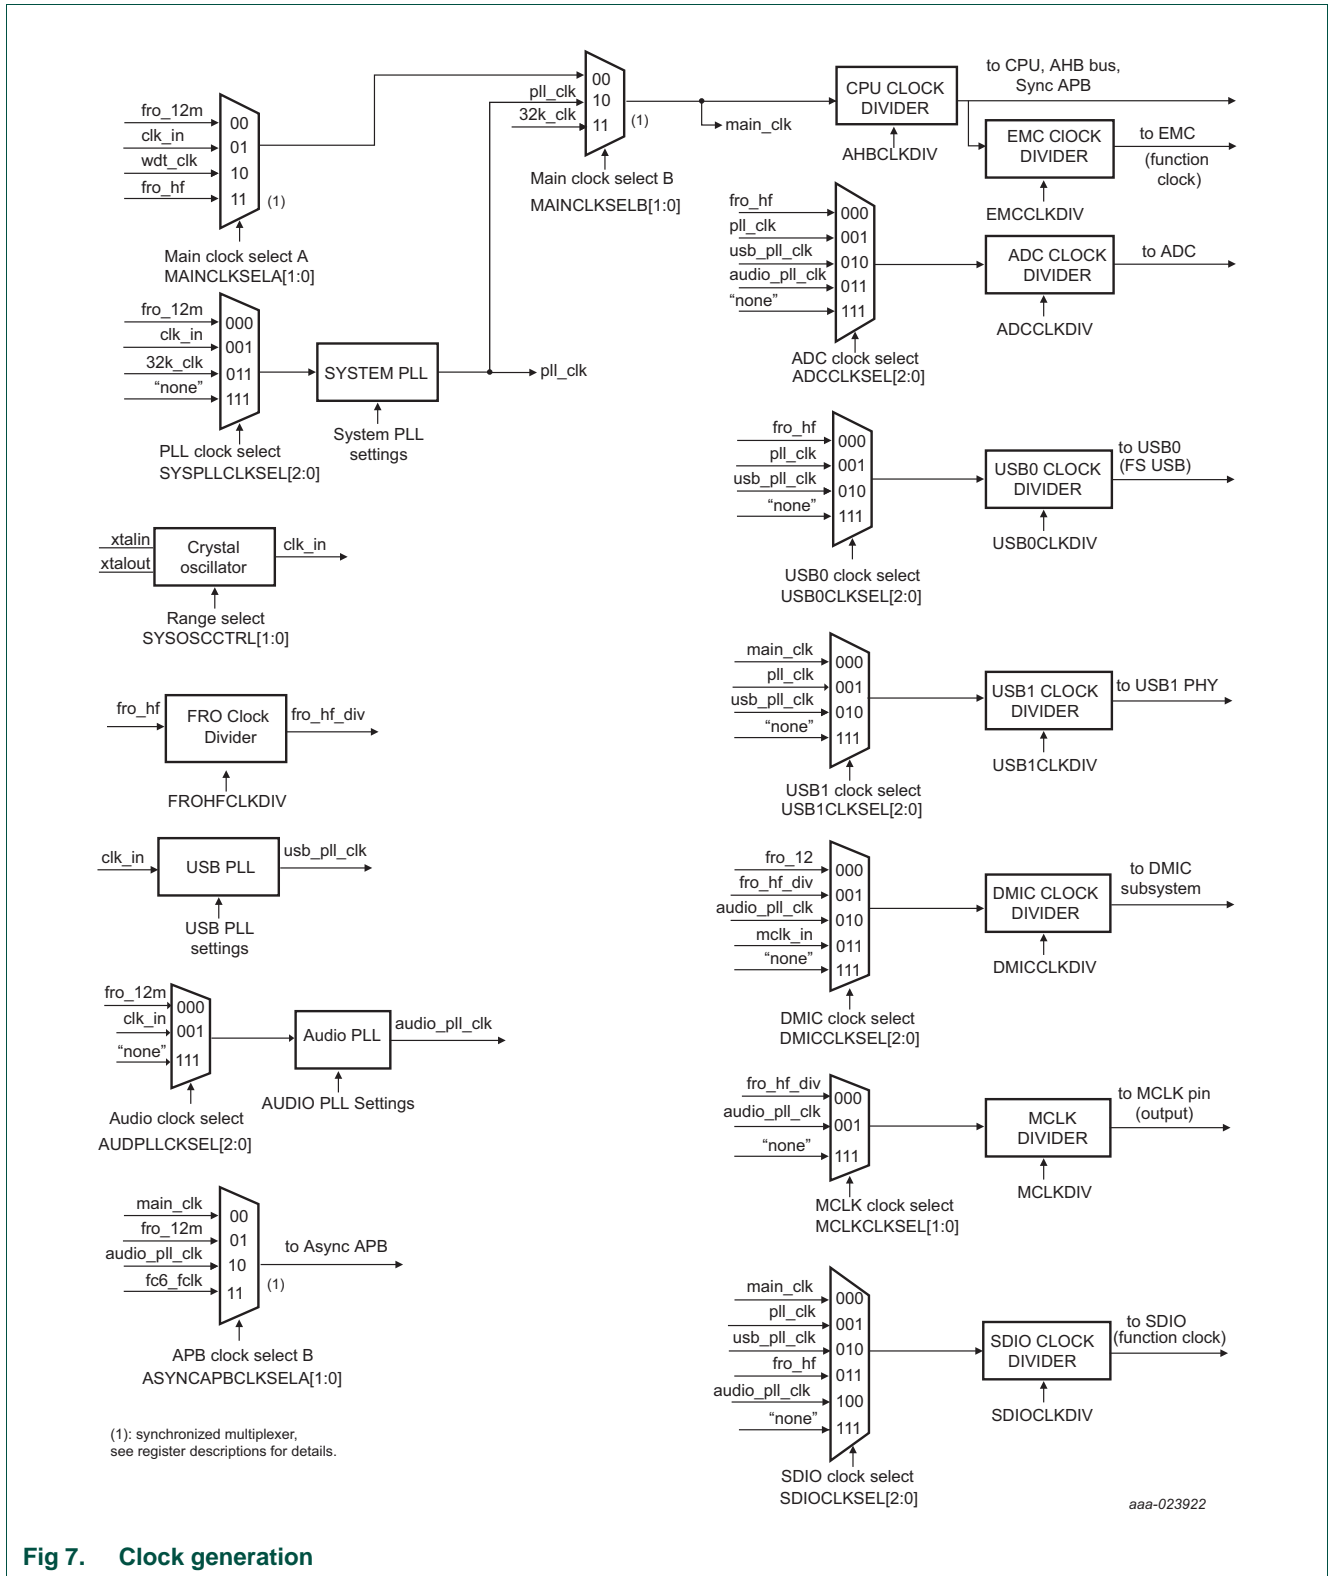
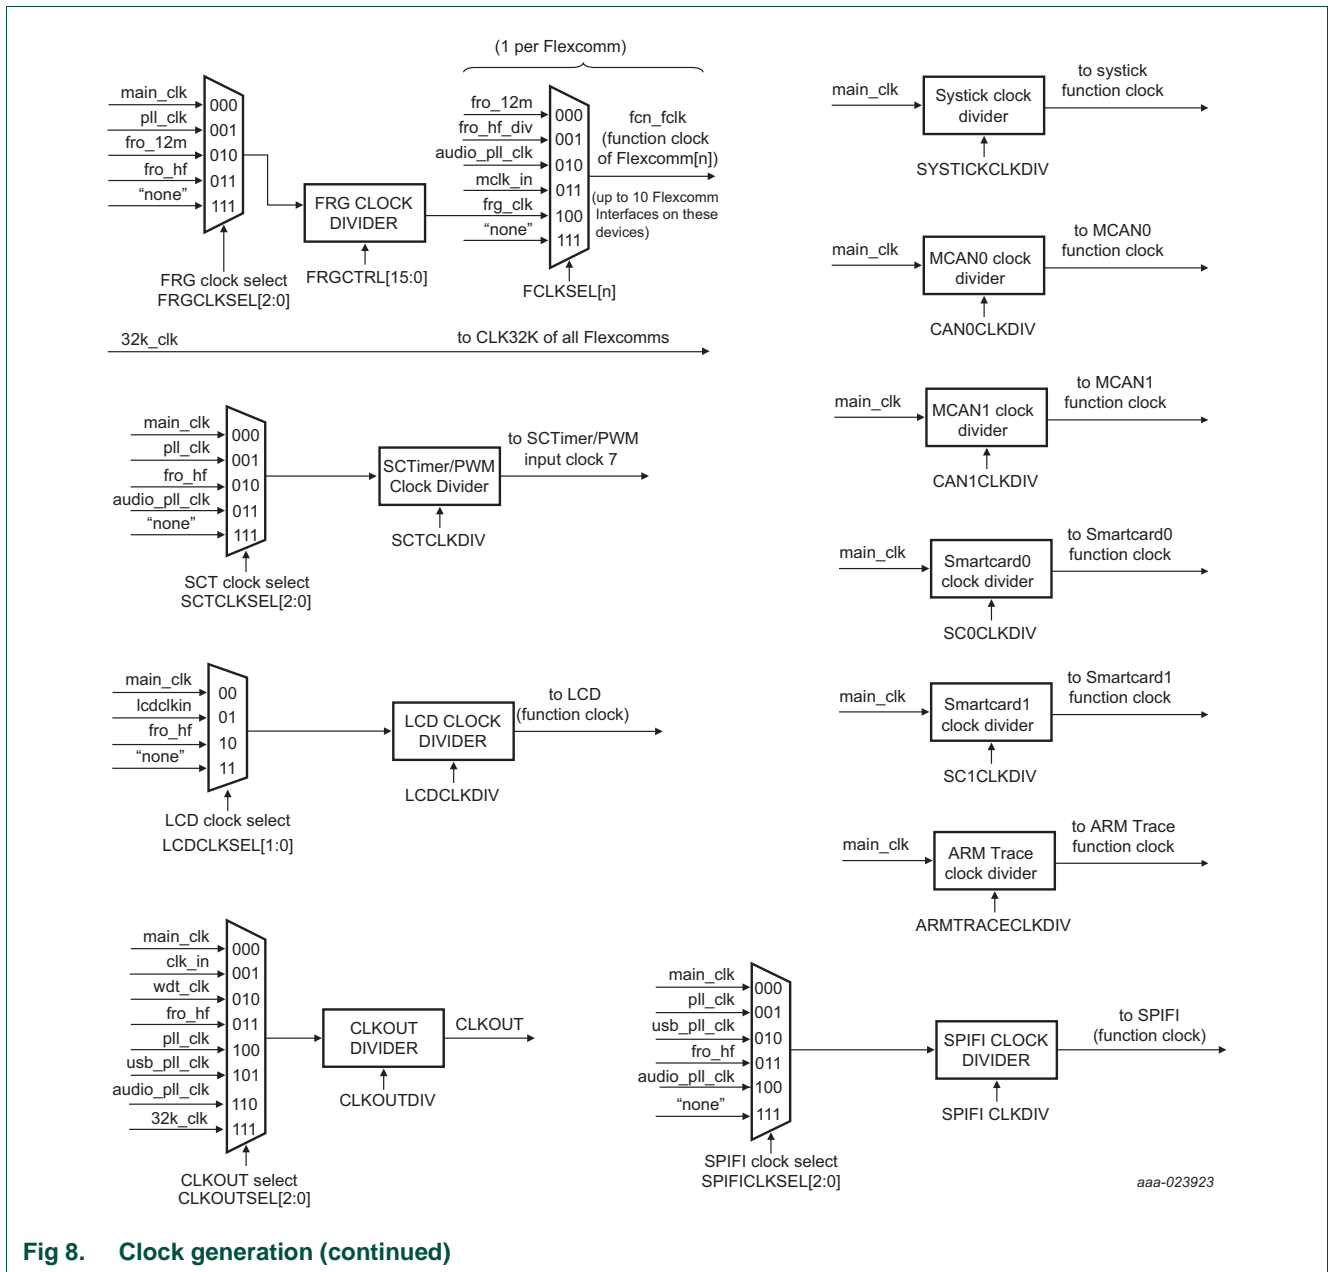

Fig 7. Clock generation
Fig 8. Clock generation (continued)
The system control block facilitates the clock generation. Many clocking variations are possible. Figure 7 and Figure 8 give an overview of potential clock options. The LPC5460x/61x devices operate at CPU frequencies of up to 180 MHz. The LPC54628 device operates at CPU frequencies of up to 220 MHz.
**Remark:** The indicated clock multiplexers shown in Figure 7 are synchronized. In order to operate, the currently selected clock must be running, and the clock to be switched to must also be running. This is so that the multiplexer can gracefully switch between the two clocks without glitches. Other clock multiplexers are not synchronized. The output divider can be stopped and restarted gracefully during switching if a glitch-free output is needed.
audio_pll_clk	The output of the Audio PLL. The Audio PLL and its source selection are shown in <a href="#">Figure 7 “Clock generation”</a> .
fcn_fclk	The function clock of Flexcomm Interfaces. See <a href="#">Figure 8 “Clock generation (continued)”</a> .
frg_clk	The output of the Fractional Rate Generator. The FRG and its source selection are shown in <a href="#">Figure 7</a> .
lcdclk_in	The clock input to the LCD display controller. See <a href="#">Figure 8 “Clock generation (continued)”</a> .
main_clk	The main clock used by the CPU and AHB bus, and potentially many others. The main clock and its source selection are shown in <a href="#">Figure 7</a> .
pll_clk	The output of the System PLL. The System PLL and its source selection are shown in <a href="#">Figure 7 “Clock generation”</a> .
usb_pll_clk	The output of the USB PLL. The USB PLL and its source selection are shown in <a href="#">Figure 7 “Clock generation”</a> .